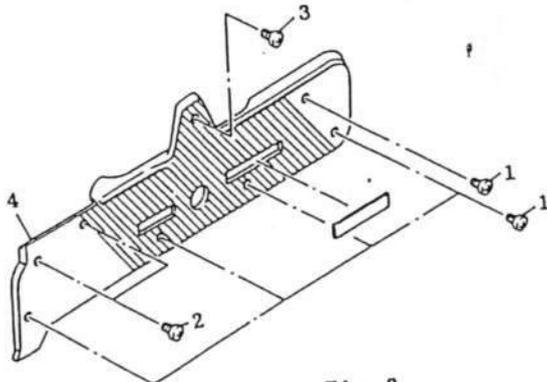

Fig.2
(1) Take off two SCREWS (No.1) and remove the HOLDER (No.2), then remove the FRESNEL LENS (No.3) carefully.
2. Bottom cover (Fig.2)